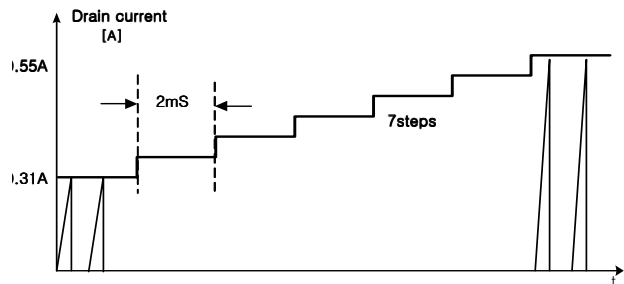

Figure 9. Internal Soft Start
5. Soft Start : The FPS has an internal soft start circuit that increases the drain current limit together with the MOSFET current slowly after it starts up. The soft start time is typical 15msec as shown in figure 9. It progressively increases during the start-up phase. The pulse width to the power switching devices is progressively increased to establish the correct working conditions for transformers, inductors, and capacitors. The voltage on the output capacitors is progressively increased with the intention of smoothly establishing the required output voltage. Consequently it prevents the transformer's saturation and the secondary diodes's stress.